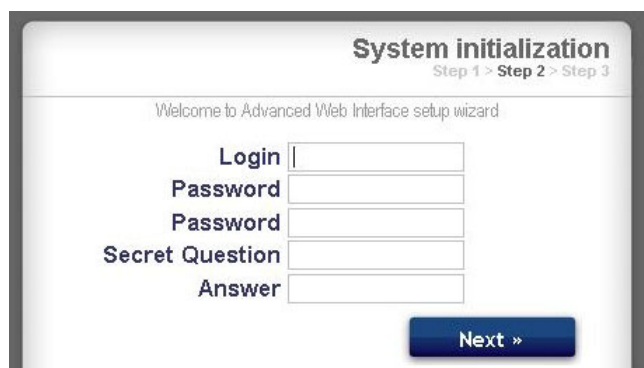

FIG. 30. System Initialization Step 2
5. The Security screen will appear. See FIG. 30. The administrator must fill in all fields. Click Next.